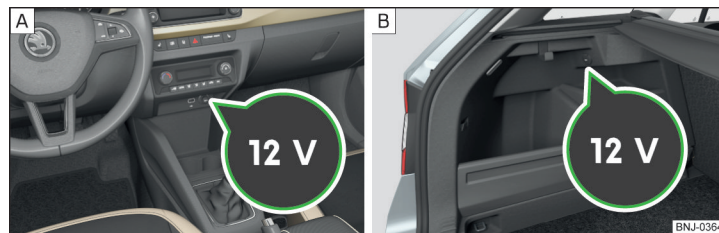

Fig. 96 Cover for the 12-volt socket: in the central part of the dashboard/in the luggage compartment
- To use, remove the cover from the socket » Fig. 96 - [A] or open the cover of the socket » Fig. 96 - [B].